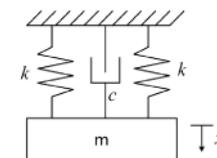

Figure Q2
2. The system in Figure Q2 is initially at rest. The mass is displaced from its equilibrium position by 0.02 m. Find the expression for velocity of the mass, $\dot{x}(t)$, if $c = 63.24 \text{ N.s/m}$, $k = 250 \text{ N/m}$ and $m = 2 \text{ kg}$.